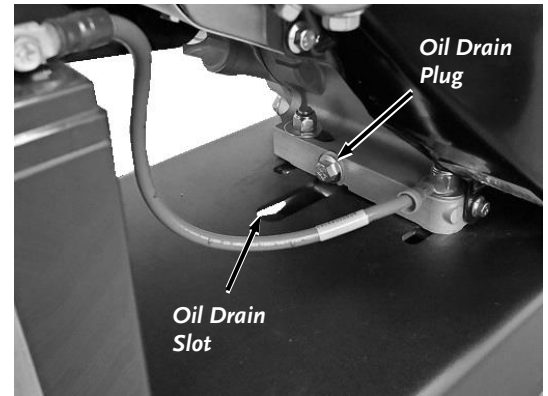

Figure 18
1. Position an Approved Container under the Engine Oil Drain Slot (**Figure 18**)